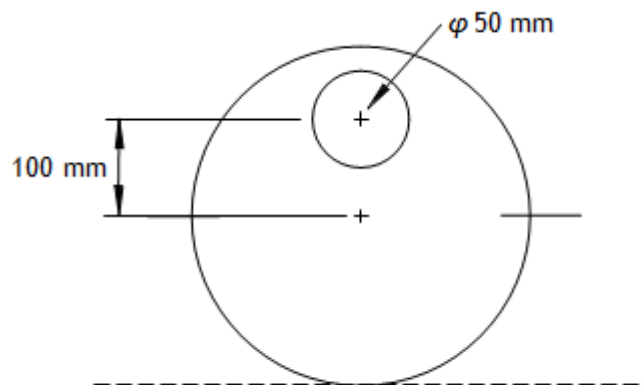

Fig Q1
1. A circular disc 500 mm diameter has a 50 mm diameter hole with its centre 100 mm directly above the centre of the disc as shown in fig Q1. The disc is free to pivot about a horizontal diameter and is subject to a uniform pressure of 1.5 kN/m^2 on one side.